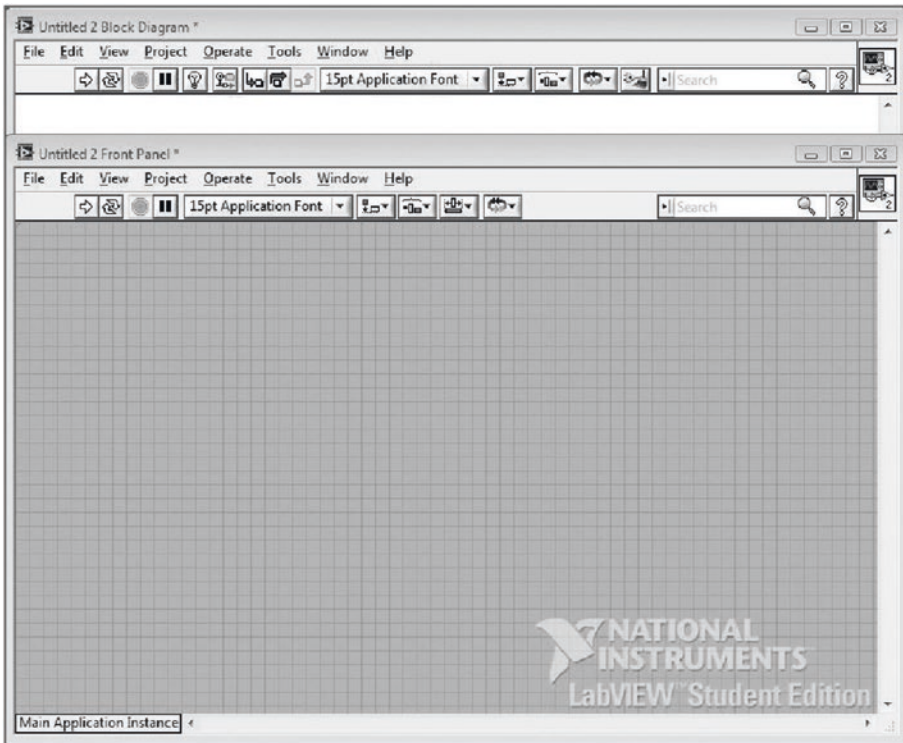

Figure 10-20. *Block Diagram (top) and Front Panel (bottom)*
3. A Front Panel and a Block Diagram should appear on the screen, ready to be added to. Figure 10-20 shows the Front Panel and Block Diagram.